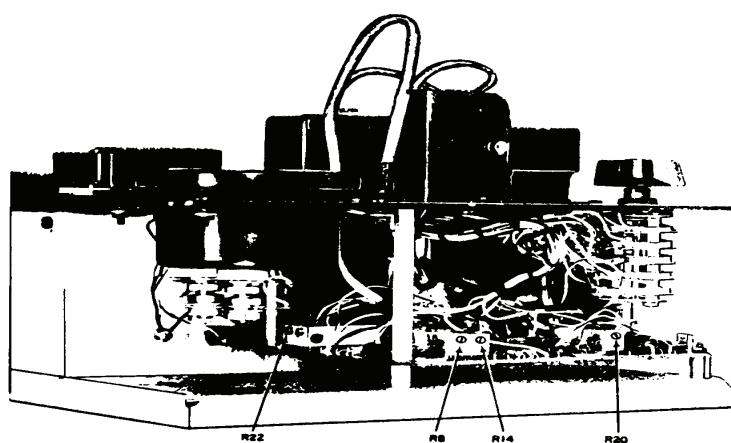

Figure 1. Channel alignment indicator - left side view.
(1) Adjust dc power supply for an indication of 12 V dc on multimeter.
(2) Set and hold **BAT TEST** switch to **XMT** position while adjusting R20 (fig. 1) for a meter indication at the upper edge of yellow area (R).
(1) Adjust dc power supply for an indication of 5 V dc on multimeter.
(2) Set and hold **BAT TEST** switch to **RCVR** position while adjusting R14 (fig. 1) for a meter indication at center of yellow area (R).
(1) Adjust dc power supply to 10 V dc.
(2) Adjust R8 (fig. 1) for a meter indication at lower edge of yellow area (R).
(1) Connect calibrator to **TEST PROBE TIP** and ground and set TI **FUNCTION** switch to **VFO** or **VCO**.
(2) Set calibrator for an output of 0.0 VDC.
(3) Adjust dc power supply output for a 12-V dc indication on multimeter. If TI meter does not indicate at center **ALIGN** mark, perform **b** below.
(4) Adjust calibrator for extreme right indication on TI meter scale. Calibrator will indicate between +1.25 and +1.4 V dc.
(5) Reverse calibrator leads. Adjust calibrator for extreme left indication on TI meter scale. Calibrator will indicate between -1.25 and -1.4 V dc. Disconnect calibrator from TI and adjust dc power supply output fully ccw.
b. Adjustments. Adjust R22 (fig. 1) for an **ALIGN** indication on meter of TI (R). Repeat technique of (2) through (5) above until no further adjustment is necessary.